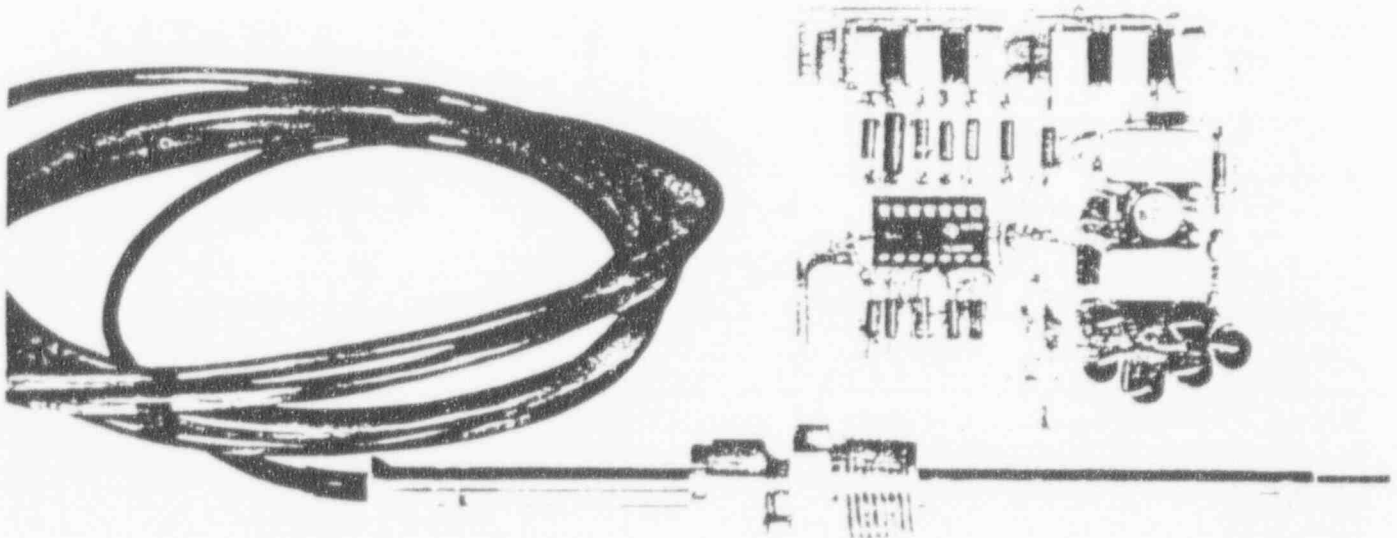

FIGURE 1-8. MODEL 911-AT AMBIENT TEMPERATURE ACCESSORY
1.2.6 Model 911-AT Ambient Temperature Accessory (Figure 1-8)